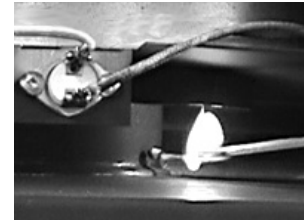

FIGURE 4
3. Wait 5 minutes. Light a match and hold to the front of the draft hood. **FIGURES 4 & 5.**